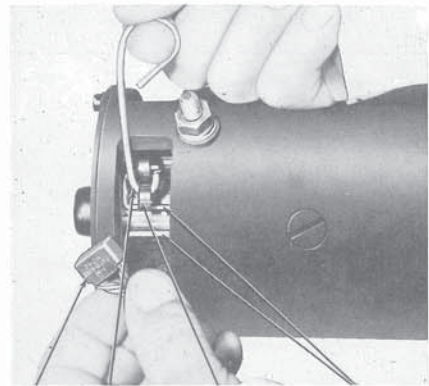

Fig. 44. Removing Brush from Holder
With a hooked end tool, pull out on brush spring (Figure 44) and insert brushes in their respective holders. Install inspection band.
**Disassemble Starting Motor.** Remove inspection band. Remove insulated brushes from holders as shown in Figure 44. Remove commutator end head screws. Remove commutator end head and withdraw armature assembly from frame.